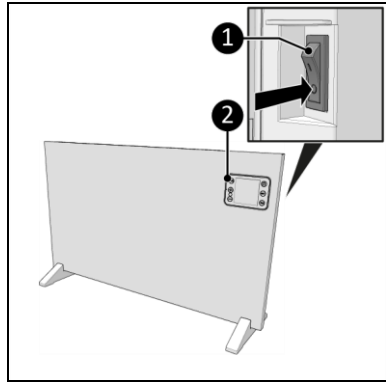

Figure 16
1. Set the ON/OFF switch to the ON position (Figure 16, pos. 1).
2. The display (Figure 16, pos. 2) will show OFF.